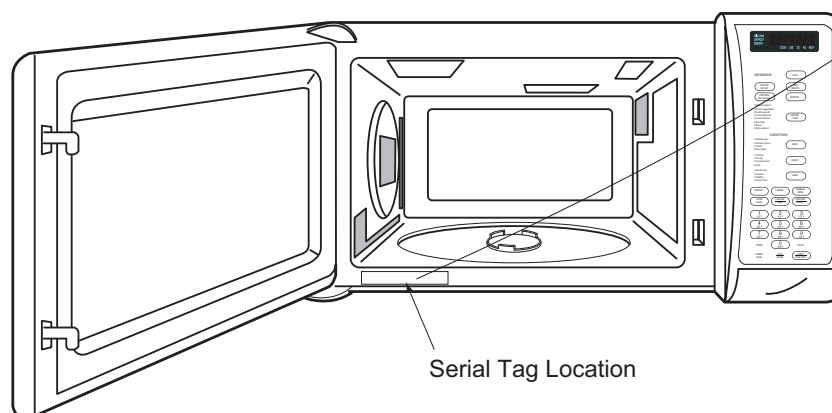

Figure 1-1. Serial Number Tag Layout and Location
- See Figures 1-1 for serial tag layout and location.